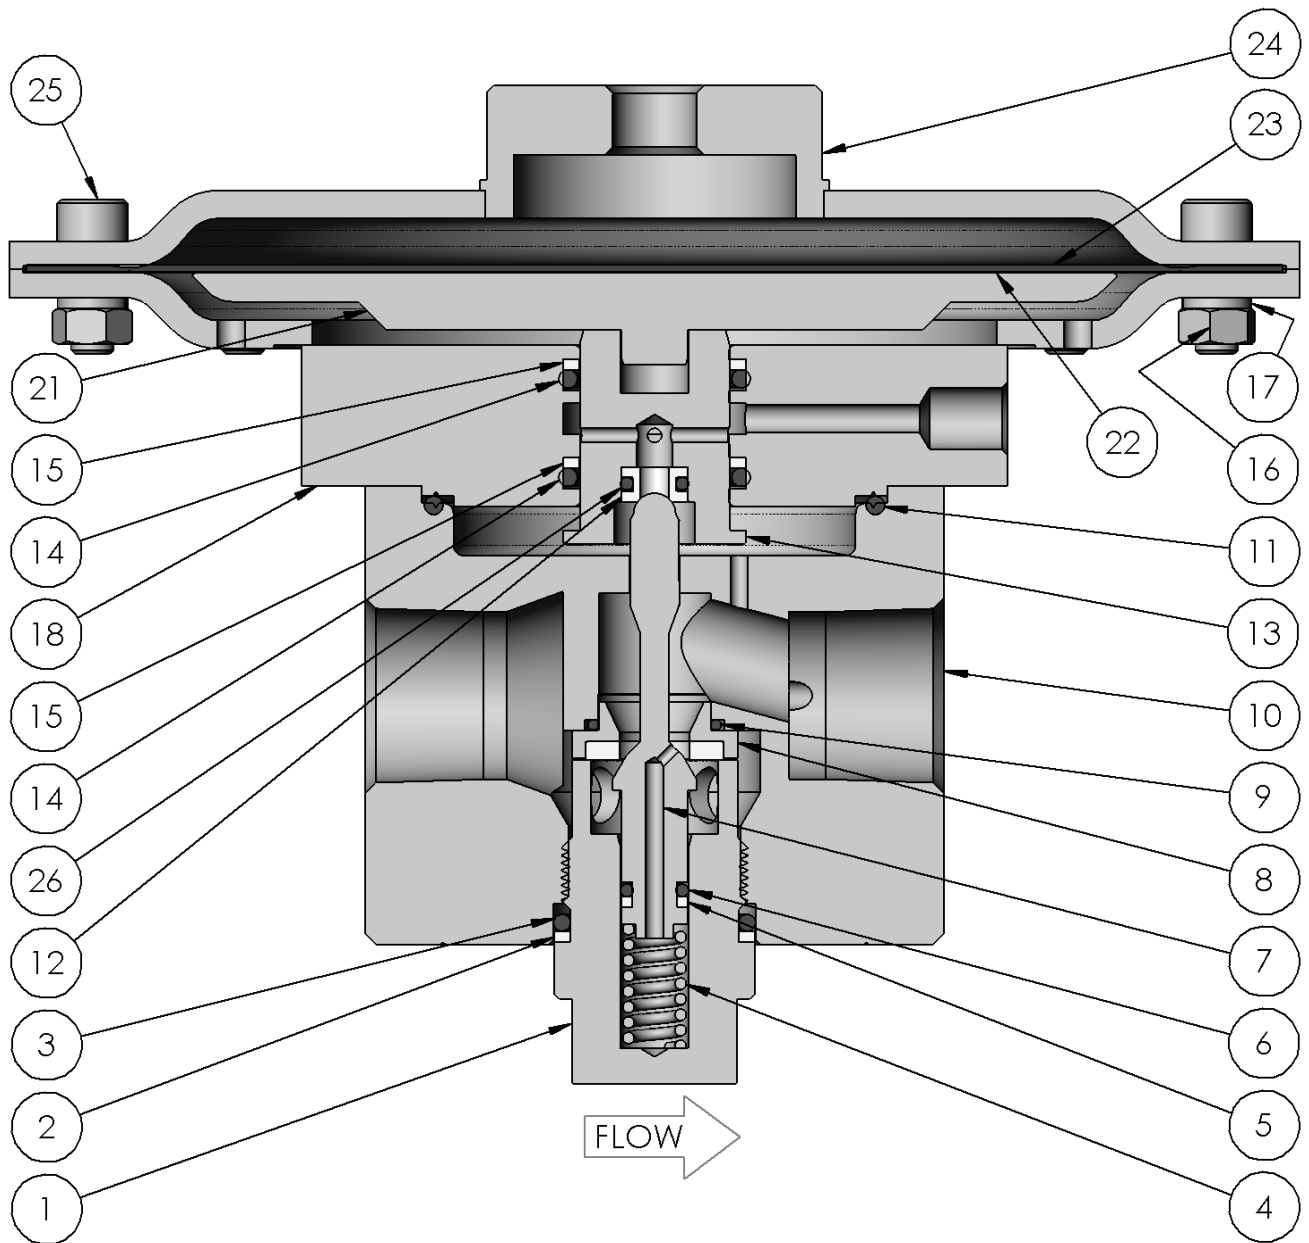

Fig 4
1. Secure the body (10) in a vise.
2. Fit the body plug O-ring (3) and, if present, body plug backup ring (2) onto the body plug (1). Ensure their orientation is correct per Fig 4.
3. Fit the seat O-ring (9) onto the seat (8).
4. Insert the seat (8) into the body (10). The poppet valve (7) can be used as an insertion tool if required. Take care not to damage the seat (8) and poppet (7) if doing this.
5. Fit the O-ring (6) and backup ring (5) onto the poppet (7). Ensure their orientation is correct per Fig 4.
6. Lightly lubricate the poppet O-ring (6) then stack the poppet (7) and poppet spring (4) through the seat (8).
7. Lightly lubricate the body plug (1) threads and assemble over the spring (4) into the body (10). Torque to 37 lbf-ft (50 N·m) while ensuring the body plug O-ring (3) is not pinched.
8. Fit the relief seat O-ring (26) over the relief seat (12) then insert the seat into the piston (13). Ensure the chamfered edge of the seat is facing out.
9. Insert the piston O-rings (14) and backup rings (15) into the piston plate (18). Ensure their orientation is correct per Fig 4.
10. Lightly lubricate the piston O-rings (14) then insert the piston (13) into the piston plate (18).
11. Place the piston plate O-ring (11) into the body (10) then fit the piston plate assembly, aligning the vent port as desired.
12. Lubricate the threads of the cap screws (20). Secure the piston plate (18) to the body (10) with the cap screws (26) and washers (25). Torque to 18 lbf-ft (25 N·m).
13. Place the diaphragm plate (21) on to the piston (13).
14. Place the diaphragm support (22) then the diaphragm (23) onto the diaphragm plate (21).
15. Lubricate the threads of the cap screws (25). Fit the dome (24) onto the diaphragm (23) and secure with the cap screws (25), washers (17), and nuts (16). Torque to 11 lbf-ft (15 N·m).